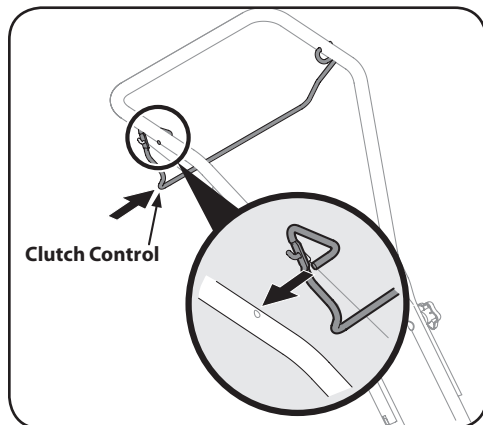

Figure 3-7
6. Squeeze the tine clutch control inward. Insert the right end into the hole on the right side of the upper handle. See Figure 3-7.